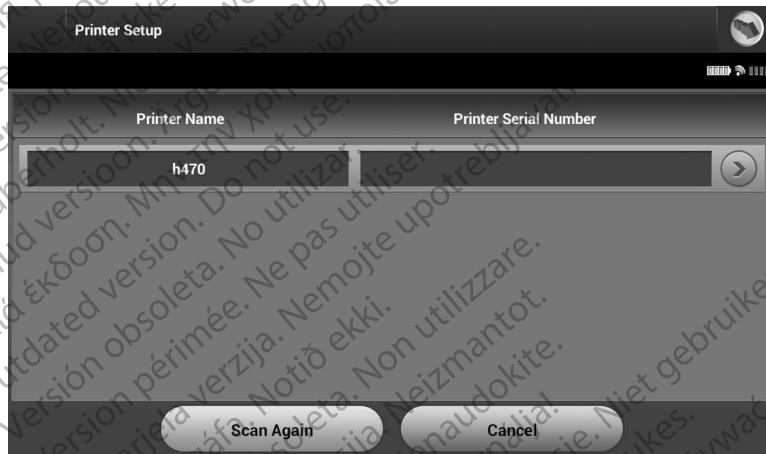

Figure 5: *Printer Setup screen*
2. Select Printer Setup on the Programmer Settings screen. The Printer Setup screen (Figure 5) will appear with a previously configured printer displayed as the default printer. If a default printer has not already been selected and configured, the screen will be empty and the programmer will scan the area to locate wireless printers. A Scan Progress Bar will appear informing the user that the programmer is currently scanning for printers.